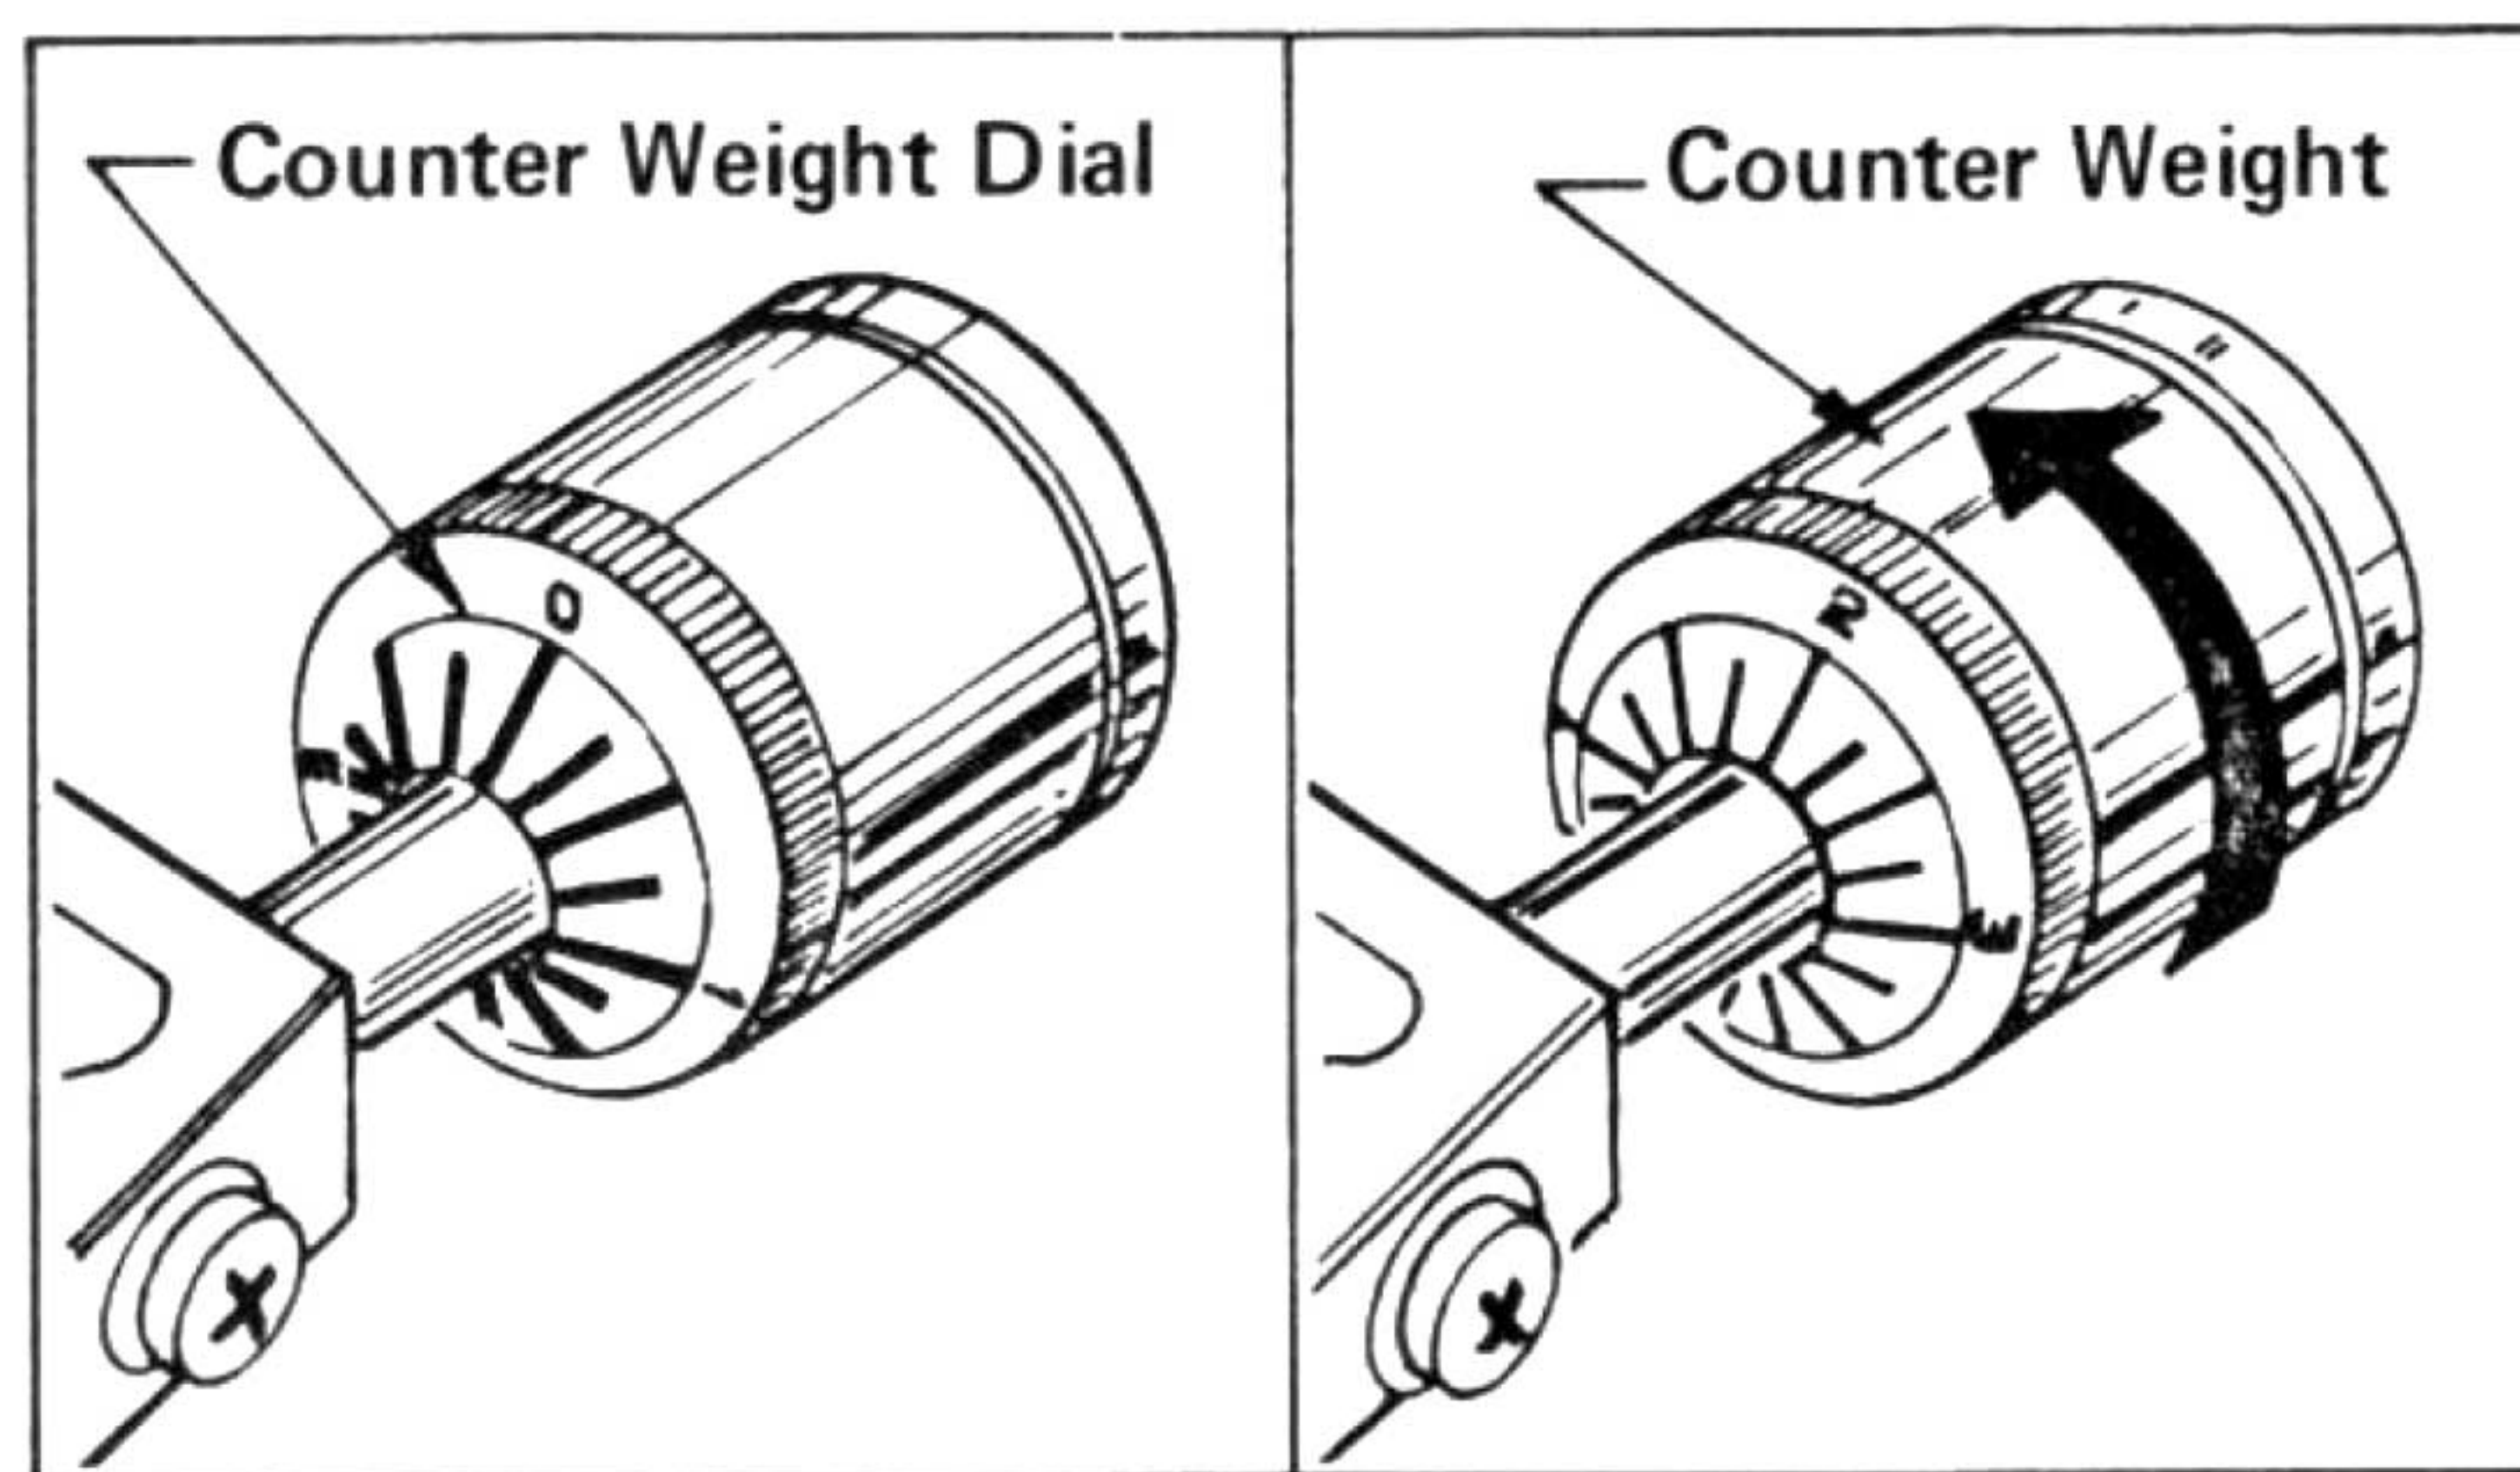

Fig.4
3. Rotate the main weight body until the dial reads the desired number: if the cartridge requires 2.5 gr., the dial must be read 2.5. (Fig. 4)